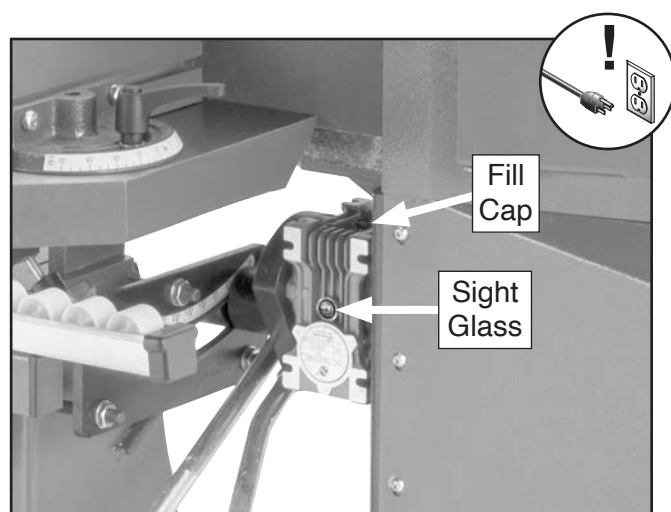

Figure 62. Location of gearbox sight glass and fill cap.
4. Check oil level in sight glass (see **Figure 62**).
5. Remove fill cap (see **Figure 62**), add oil until it fills half of sight glass, then install fill cap.
4. Remove fill cap (see **Figure 62**).
7. Fill gearbox with oil until oil level is at halfway point in sight glass (see **Figure 62**), then install fill cap.